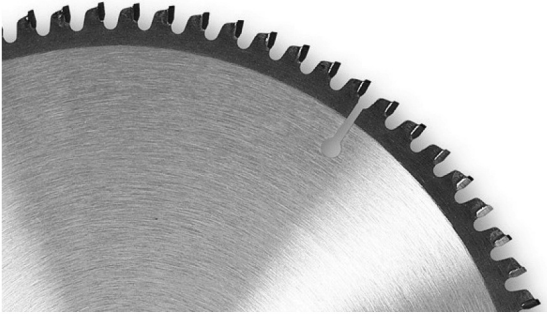

Figure 11
- 41 What circular saw tooth type is shown in Figure 11?